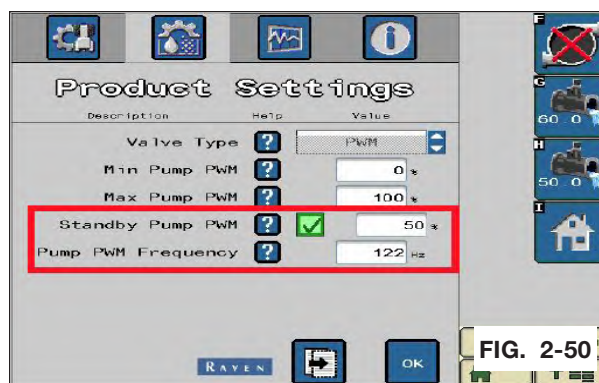

FIG. 2-50
19. Make sure to check mark the box for Standby Pump PWM. Default is unchecked. Do not go over 50%. Ensure Pump PWM Frequency is 122. Default is usually 60. (FIG. 2-50). Click next page.